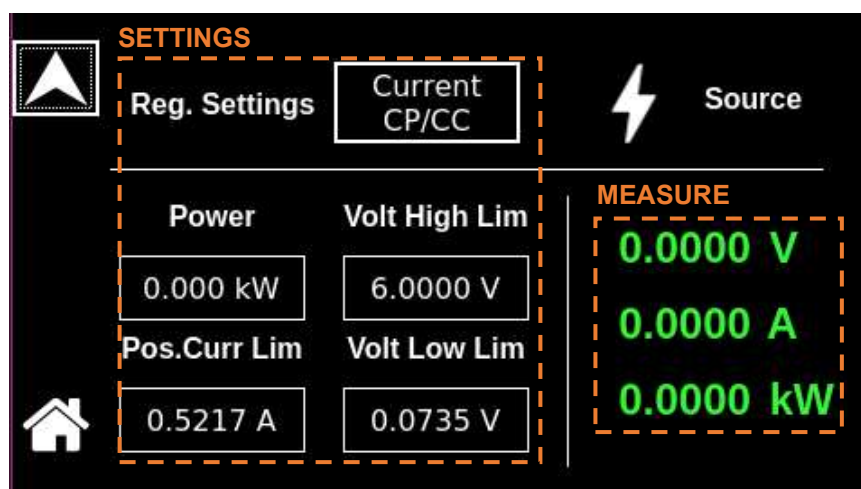

**Figure 9-14. Dashboard Screen in Current CP/CC Regulation setting**
The 'Reg. Setting' function on the Dashboard Screen enables users to switch between 'Voltage (CV/CC, CV-Ser. Res, CV/CP, CP/CV and CV)' and 'Current (CC/CV, CP/CC, CC/CP and CC)' Regulation settings. Refer to Figure 9-6 to Figure 9-14 and Table 9-10 to Table 9-19.
**a) Current - CP/CC Regulation setting** is shown in Figure 9-14,